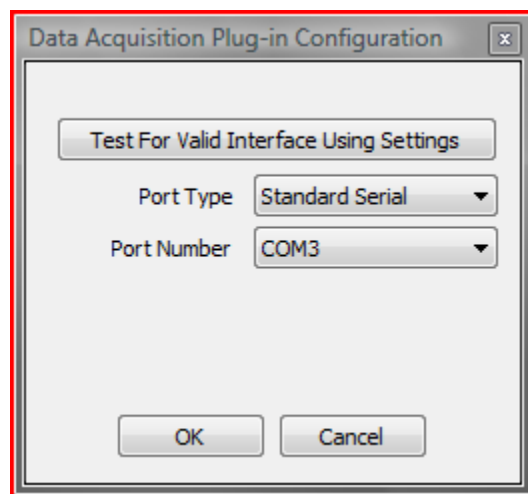

Figure 7: Configure Plug-In Component (Jared Zuech)
- d. Now click “Configure Plug-in Component,” which should look like Figure 7 below: